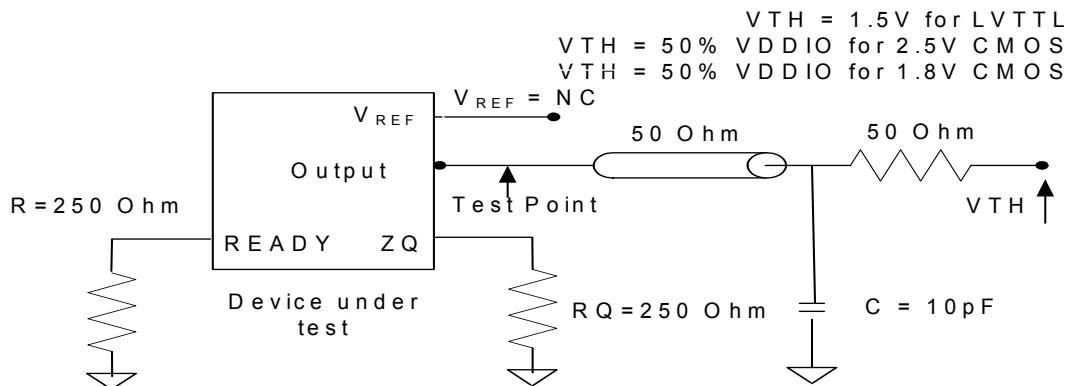

Figure 5. Output Test Load for LVTTL/CMOS
27. Parameters specified with the load capacitance in *Figure 5* and *Figure 6*.